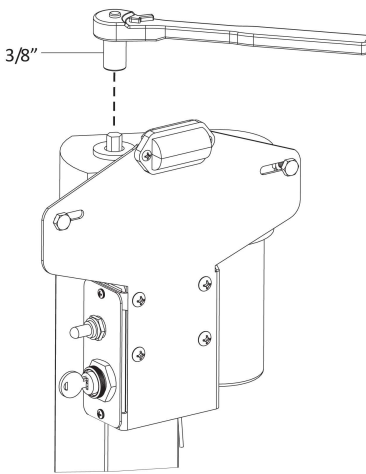

Figure 8-3
3. Insert a 3/8" socket wrench into the actuator and rotate the Hex Shaft. [Figure 8-3]